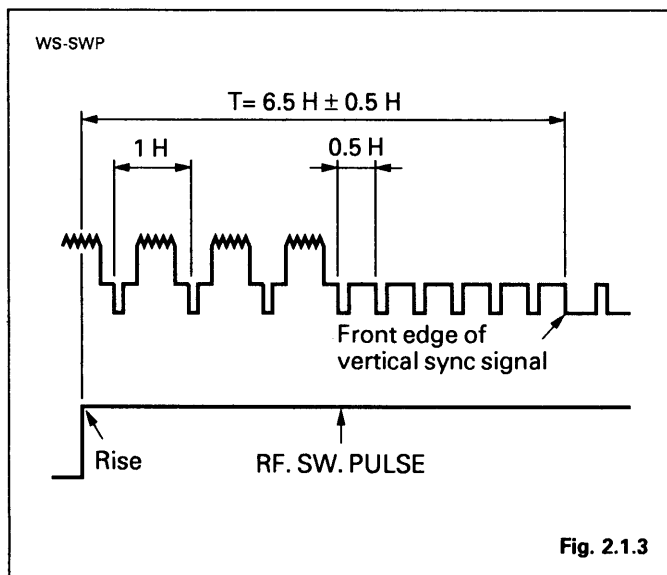

Fig. 2.1.3
- Adjust VR351 (SW-P) so that the width "T" becomes $6.5 H \pm 0.5 H$ as shown in Fig. 2.1.3.